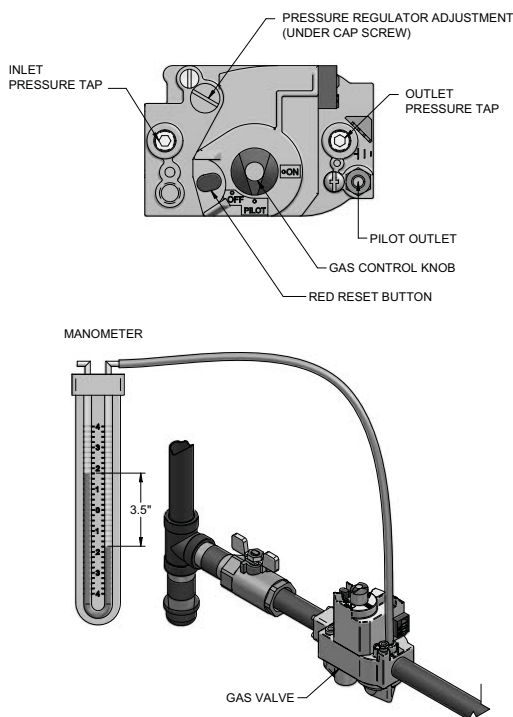

Figure 3-3_Manifold Pressure Adjustment
- Remove the 1/8” hex plug located on the outlet side of the gas valve and install a fitting suitable to connect to a manometer or magnahelic gauge. See FIG. 3-3. Minimum range of scale should be up to 5” w.c. for Natural gas models and 10” w.c. for L.P. gas models.
- Remove the pressure regulator adjustment cap screw on the gas valve. See FIG. 3-3 for location.